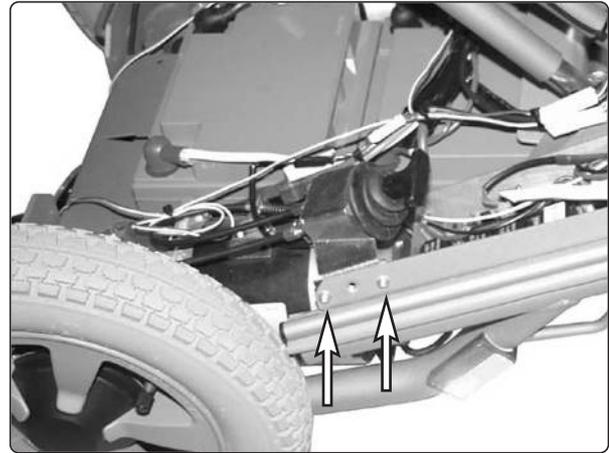

Fig. 16. The brake release mechanism is attached by two bolts.
3. Remove the brake release mechanism, it is attached by two bolts, see fig. 16.
5. Remove the brake release mechanism, it is attached by two bolts, see fig. 16. It is easier to remove the brake release sensor with the brake release mechanism removed.